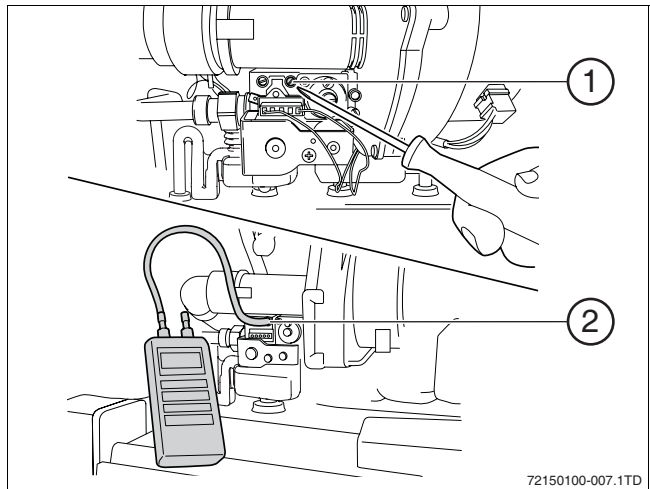

Fig. 8 Checking the gas/air ratio
- ▶ Loosen the screw plug on the measuring nipple for the burner pressure by 2 rotations (→ fig. 8, [1]).
- ▶ Use a hose to connect the plus terminal of the pressure gauge to the burner pressure measuring nipple (→ fig. 8, [2]).
- ▶ Switch on the heating system using the main switch (→ fig. 8, [1]).
- ▶ Switch off the heating system using the main switch (→ fig. 8, [1]).